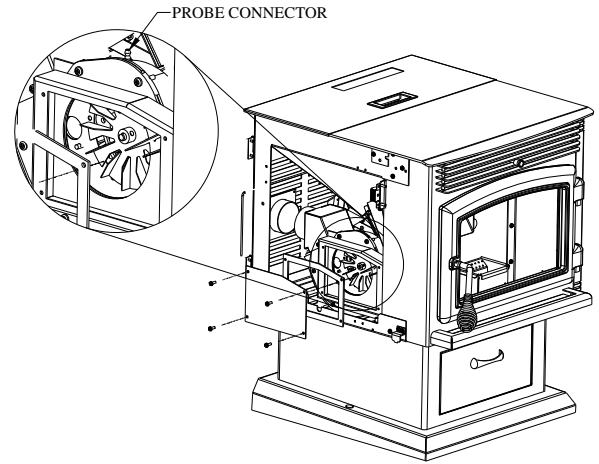

Figure 25
- **Blower Cleaning** – Over a period of time, ashes or dust may collect on the blades of both the combustion/exhaust blower and convection blower. Periodically, the blowers should be cleaned as the ash and dust can impede performance. The combustion/exhaust blower can be accessed by opening the left, right, and back panels.(Figure 25) To clean the blades in the combustion housing, insert the vacuum tip through the air inlet damper opening located on the side of the combustion housing. Clean thoroughly. To clean the blades in the exhaust housing, use a screw driver to remove the cleaning access panel located on the side of the metal box covering the housing. Insert the vacuum tip through the cleaning outlet and clean the blades thoroughly.